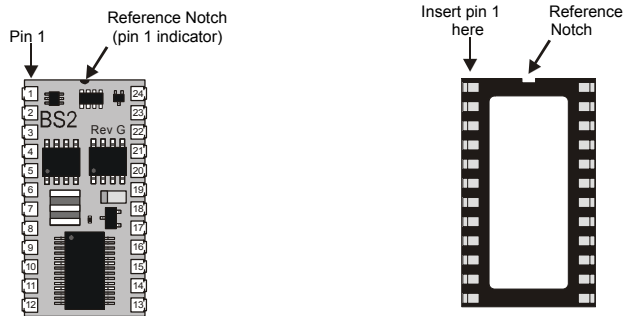
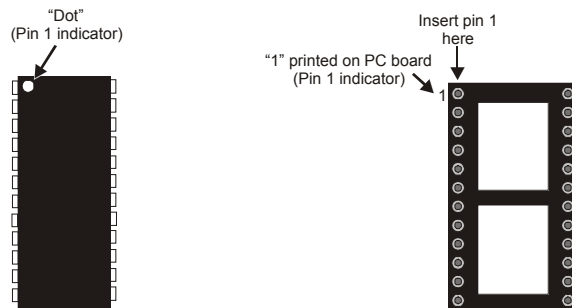

Figure 1.13: Pin 1 Indicators BS2-IC shown in the correct orientation in relation to a 24-pin socket.
Figure 1.14: Additional Examples of Pin 1 Indicators (chip and socket shown in the correct orientation in relation to each other)
All BS2 series modules have a half-circle indicator on the topline of the module (see Figure 1.13). This indicates that pin number one is the first pin counterclockwise from the notch. The socket that accepts this 24-pin module also
has a half-circle or notch on one end, indicating the correct orientation. See Figure 1.14 for other examples.
- 1) If the BASIC Stamp isn't already plugged into your development board, insert it into the socket. Refer to Figure 1.13 and Figure 1.14 on page 26 to make sure that you orient it correctly. For a complete listing of Parallax development boards for the various BASIC Stamp modules, go to www.parallax.com and look for Development Boards on the Products menu.